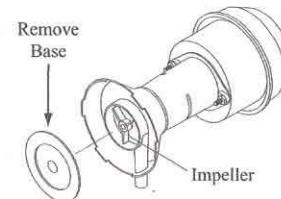

Fig. 8
- Clean pump.** Cleaning the pump is necessary once a year at start-up. For your safety, turn unit off and unplug from power receptacle. Remove the pump from the mount slot. Remove the base of the pump as shown in Fig. 8. Clean the pump and turn the impeller to ensure free operation. Remove the pump spout and check for any blockage. After cleaning, reinstall the base onto the pump. Press firmly to make sure it is secure. Reattach the pump to the mount in the cooler using the plastic retainer to ensure that the pump will not overturn. Do not forget to replace the spout and water delivery tube onto the pump outlet.